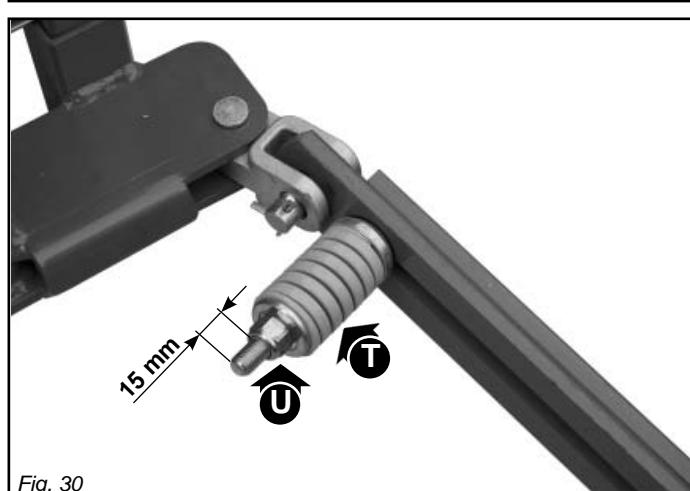

Fig. 30
- Position the safety tie rod parallel to the ground, and reverse the tractor until the safety tie rod hooks up again.** If the tie rod releases easily, adjust spring (T, Fig. 30) using nut (U, Fig. 30) which should be tightened half turn at a time.
A spring compression other than that indicated in Figure 30 (15 mm) can make the safety device ineffective.